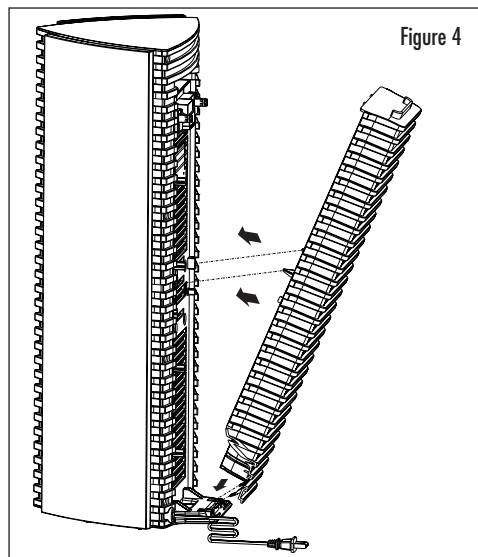

Figure 4
- Place air inlet grill back onto unit by aligning the bottom of the air inlet grill into the slots located at the base of the rear housing of the unit, and then attach the inlet grill onto the unit and close securely (see Figure 4).
- Filters with a 4-month filter life: Press and hold the Filter Reset Button (  ) and then the Low Speed Button (1), and hold both buttons for 3 seconds. The indicator light will flash 3 times to indicate that 4-month timer is activated. This Filter Check indicator is a reminder to perform maintenance to wipe your unit clean, wash the foam pre-filter and to replace the Aer1® filters.
**FILTERS CAN BE PURCHASED ONLINE AT [WWW.AER1FILTERS.COM](http://WWW.AER1FILTERS.COM), OR BY CALLING (855) TRY-AER1.**